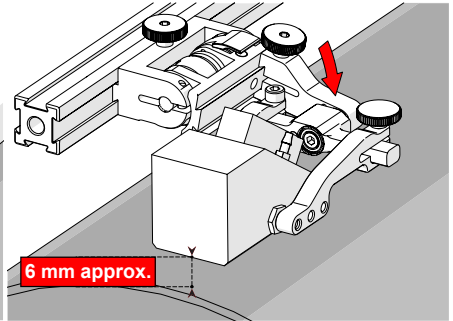

Fig. 155 - Lower to scanning surface
2. Push the probe holder yoke down toward the inspection surface until the wedge is approximately 6 mm ($\frac{1}{4}$ in) from the inspection surface (Fig. 155).